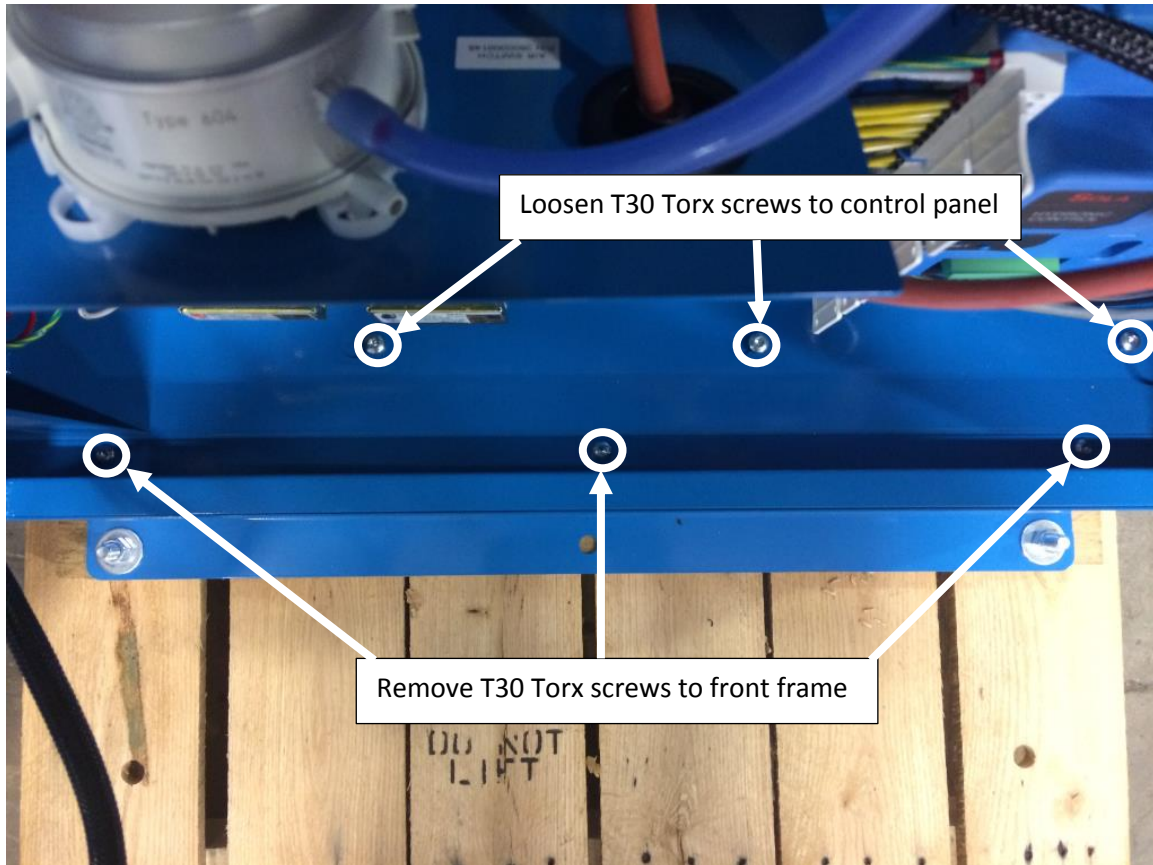

Figure 3
7. Remove 3 T30 Torx screws from front frame as shown in Figure 3. Remove front frame.
8. With a T30 Torx bit, loosen 3 screws that hold control panel in place shown in Figure 3.